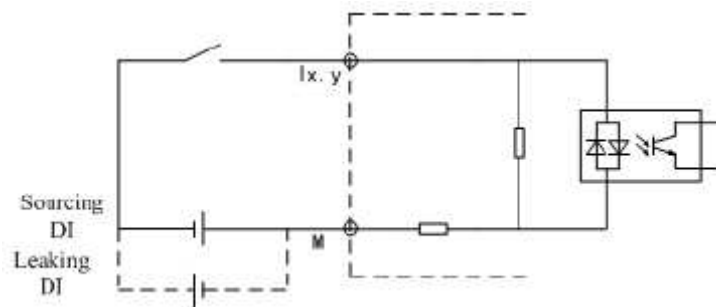

Figure 3-1-2 LM3210 DI Channel Equivalent Circuit
- DI channel equivalent circuit is shown in Figure 3-1-2.
- Input channel (DI) equivalent circuit shown in Figure 3-1-2.